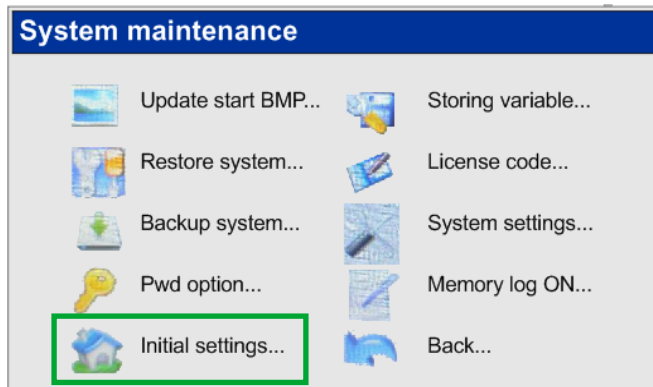

Fig. 3
4. Press the 'Initial settings...' button (marked green in Fig. 3).